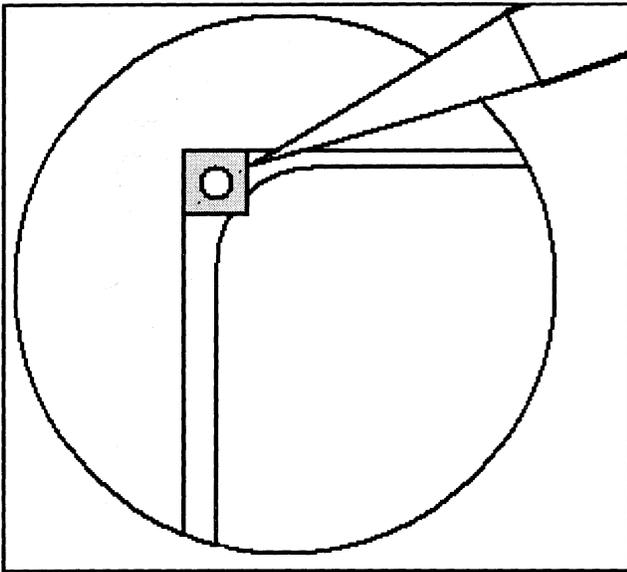

Figure 2.
6.) Make sure each speednut is aligned with the tube that its bolt goes through. Touch the edge of the speednut with the superglue pen (as in figure 2) to glue it to the fan frame. Hold the fan till the glue dries.